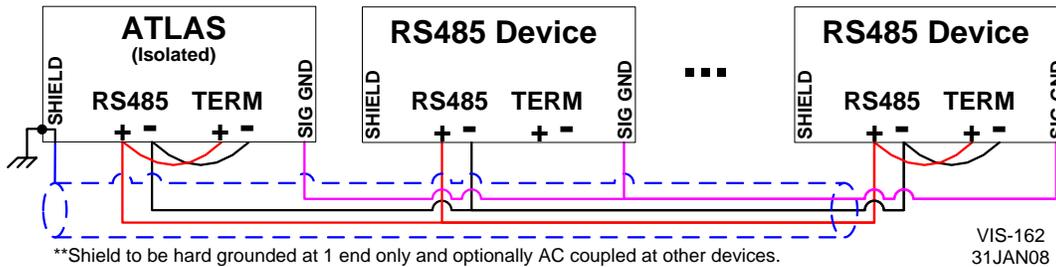

Figure 4-23. Wiring Example–RS-485 Interface to the SmartCore CPU A5200 Board
- **RS-485.** Refer to Figure 4-23 for RS-485 wiring. The data lines (485+ and 485-) and signal ground (SIG GND) must be properly connected as shown. In addition, the shield (SHLD) should be connected in at least one location. The unit at each end of the network should be terminated with a resistor.